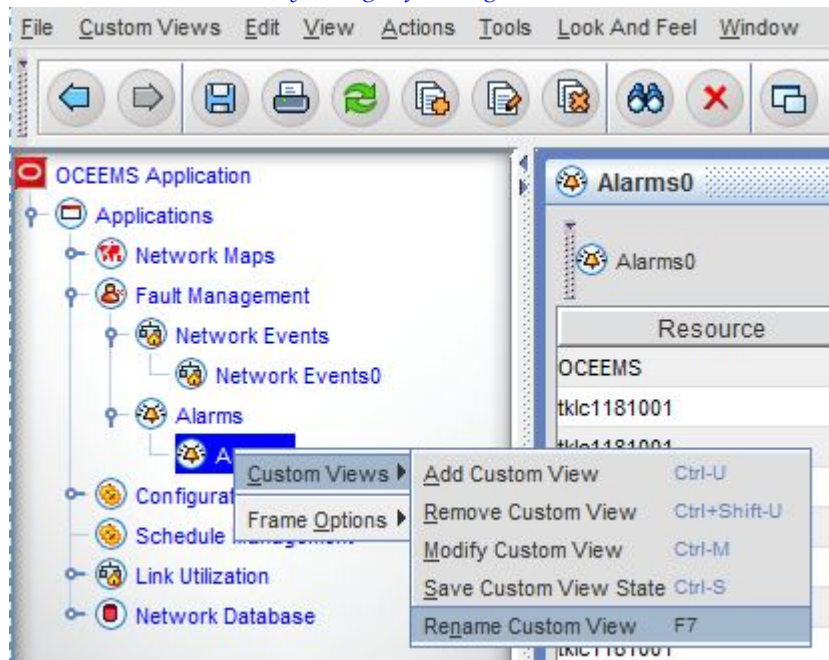

Figure 131: Rename a Custom View By Using Left Navigation Pane
- Right-click on the custom view node under the Network Events/Alarms node in the left navigation pane, and choose **Custom Views > Rename Custom View** as shown in Figure 131: Rename a Custom View By Using Left Navigation Pane.